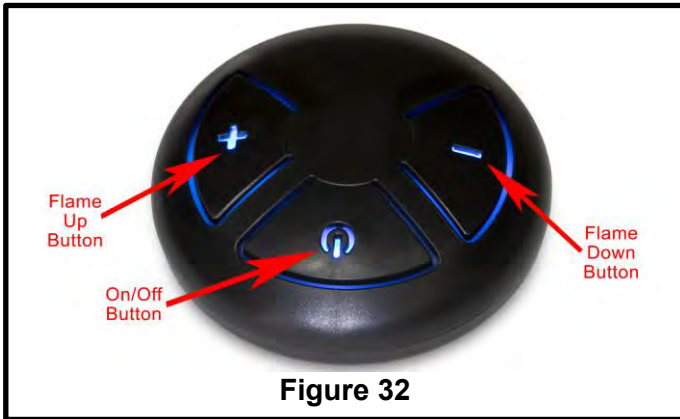

Figure 32
3. Within the next 20 seconds, press the transmitter's flame down button (Figure 32) until you hear the receiver emit two short beeps confirming that the code has been set.